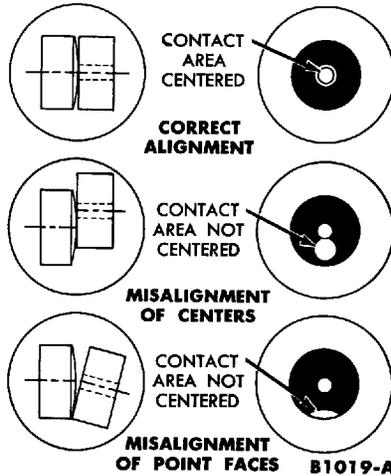

FIG. 12—Breaker Point Alignment
1. Turn the cam so that the breaker points are closed and check the alignment of the points (Fig. 12).